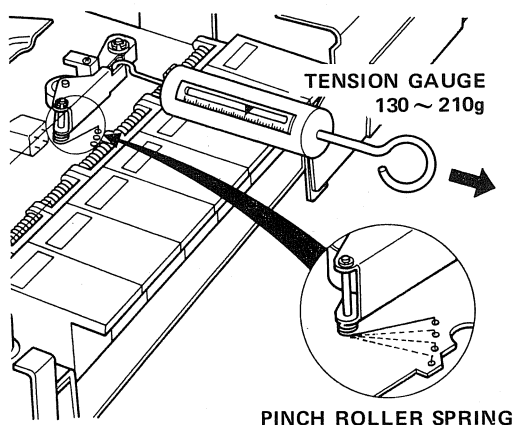

Fig. 8
2. Attach tension gauge as shown in Fig. 8, pull as indicated by arrow. Reading should be $130 \sim 210$ grams.
3. If proper tension reading is not obtained, refer to small insert in Fig. 8. Change anchoring of pinch roller spring (helical spring) to obtain proper tension.